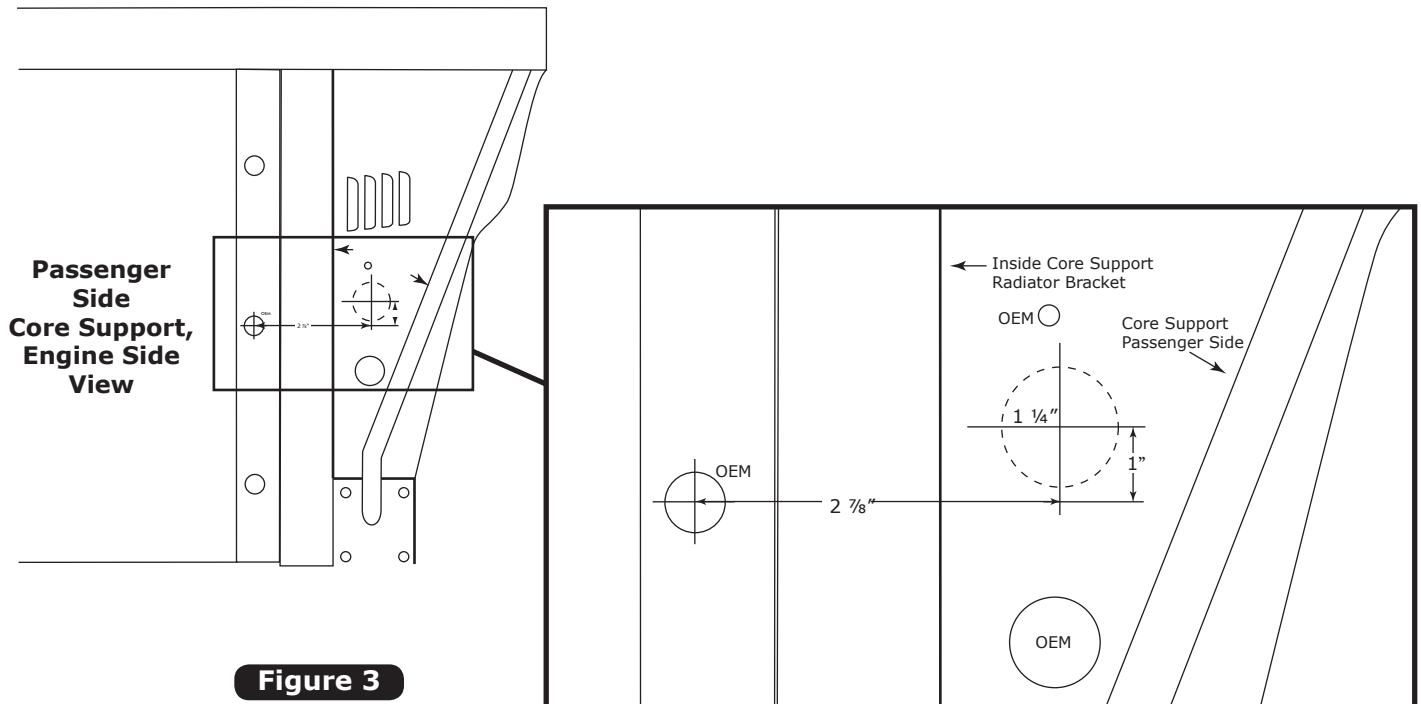

Figure 3
1. Drill a 1 1/4" hole through the passenger side of the core support using the measurements shown in Figure 3, below.